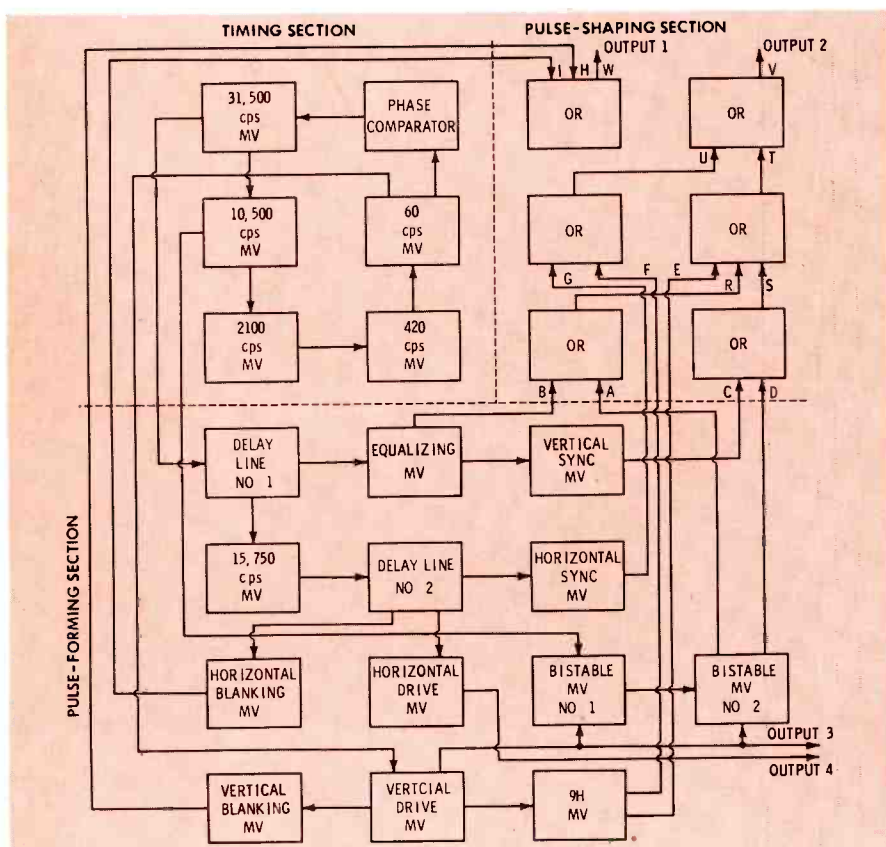

Fig. 2. Block diagram shows the interconnections between portions of generator.
The overall synchronizing generator can be separated into four sections, each of which performs a distinct function. These sections are: (1) the timer section, (2) the pulse-generating section, (3) the pulse-shaping section, and (4) the output section. Fig. 2 shows the connections between the timing, pulse-generating, and pulse-shaping circuits.
Fig. 2 shows the 31,500-cps input applied to a delay line. The vertical-synchronizing and the equalizing-pulse triggers are delayed by approximately .025H (H represents time of 1 period at horizontal-sweep frequency), or 1.59 usec. The trigger to the 15,750-cps frequency-dividing multivibrator is not delayed; therefore, triggering of this stage occurs before triggering of the multivibrators which produce the vertical-synchronizing and equalizing pulses. Triggering of the hori-